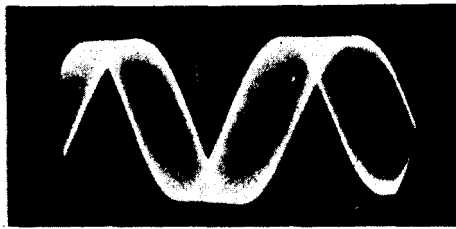

Figure 6-4. Waveform at AUDIO OUT Jack with AUDIO SELECTOR at 9960 FM
g. 9960 FM. Appears as a 9960-cps sine wave with frequency modulation spreading out the waveform. See figure 6-4.